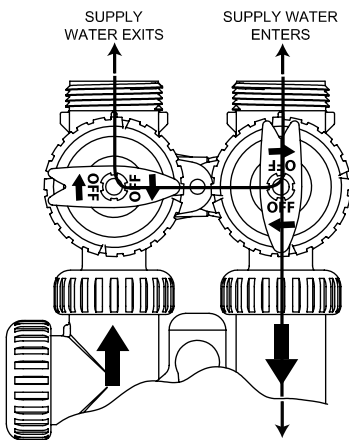

FIGURE 3
- Step 2: Press and Hold the REGEN button on the Triton until you hear the motor engage. This will initiate an immediate manual regeneration of the system. Refer to the table on page 9 for Triton cycles of operation. Turn the bypass valve to "diagnostic" mode position (see figure 3 on page 10). (You should hear water entering the system.) Wait a few minutes to ensure the control valve can draw water and does not leak. Allow the system to backwash until the water going to drain is clear. If everything is working, press and release the REGEN button. You will hear the motor engage and move the piston into the "Brine Dn" position. Check the brine line for leaks or suction. You should hear the valve drawing brine. Continue to skip cycles by pressing and releasing the REGEN button (wait for the motor to stop before pressing REGEN) until you reach the "Brine Fill" position. This ensures that water will go to the brine tank. Fill tank 3" to 4" above salt grid. Make sure enough water is in the brine tank to dissolve the correct amount of salt for regeneration (1 gallon of water will dissolve 3 lbs. of sodium chloride). Allow the brine tank to fill with water to air check level. If the system needs 6 lbs. of salt to regenerate, then at least 2½ gallons of water must be in the brine tank above air check in the brine well. The extra ½ gallon is an additional measure for evaporation or loss. ($6 \div 3 = 2$ gallons of water plus ½ gallon). Fill the brine tank with salt. (We recommend potassium chloride (KCl) instead of rock salt.) Once the brine tank is filled to this level, press REGEN once more to return the valve to service. You should hear the motor engage for a short period and then a long period.
Figure 3. Diagnostic Position: The inlet handle points in the direction of flow and the outlet handle points to the center of bypass valve, system water pressure is allowed to the control valve and the plumbing system while not allowing water to exit from the control valve to the plumbing.